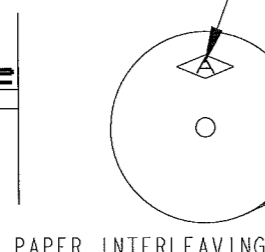

FIGURE 2
- FOR THROUGH SPLICES USED IN A BENCH APPLICATOR, THE PART NUMBER REMAINS THE SAME AS IN THE TABLE (i.e. 3800S 75A-6). SEE FIGURE 2 FOR REELING.
- FOR PIGTAIL AND THROUGH SPLICES USED IN A SLIM-LINE AIR PRESS, THE PART NUMBER REMAINS THE SAME AS IN THE TABLE (i.e. 3800S 75A-6). SEE FIGURE 2 FOR REELING.
- (1) STRANDED WIRE
- (2) MANGET WIRES
- (3) MANGET WIRES UPON ARK-LES CONFIRMATION